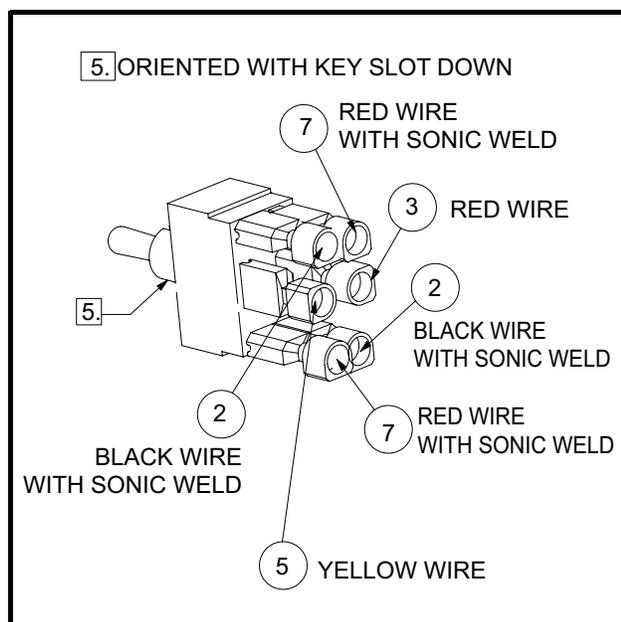

Figure 12a-11 Bed Lift Switch Wiring
1. Connect the wires to the bed lift toggle switch as shown (**Figure 12a-11, Page 12a-14**).